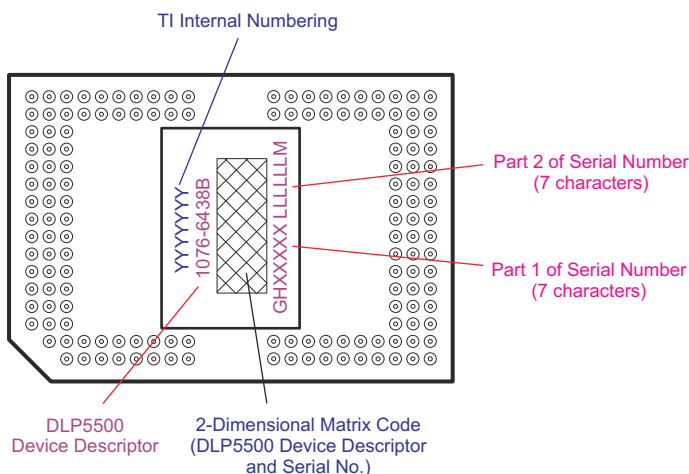

图 11-1. DMD Marking (Device Top View)
The device marking consists of the fields shown in 图 11-1.
- Changed DMD Marking Image Object for 图 11-1 **36**